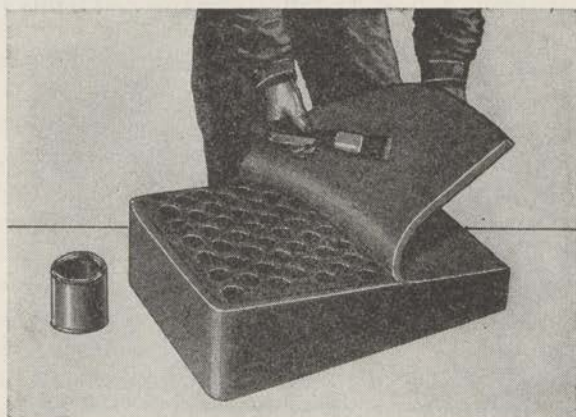
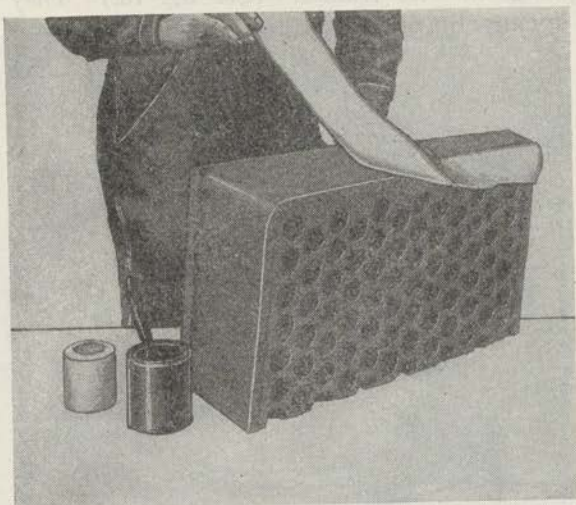

FIGURE 74.—Fabricating a foam-rubber cushion.
FIGURE 75.—Attaching tacking tape.
f. Foam rubber.—Foam rubber, or foamed latex as it is sometimes called, has recently come into use for padding motor vehicle seats and back rests, and will probably be used more and more. It is available in molded cushions of the size and shape to be used, or in blocks and flat stock that can be cut and cemented to the desired size and shape (see fig. 74). Tacking tape can be cemented to the bottom of the cushion and tacked to the frame (see fig. 75). Foam rubber is available in several degrees of density, which determine its softness, for different purposes. For example, a softer grade may be used for back cushions than for seats.